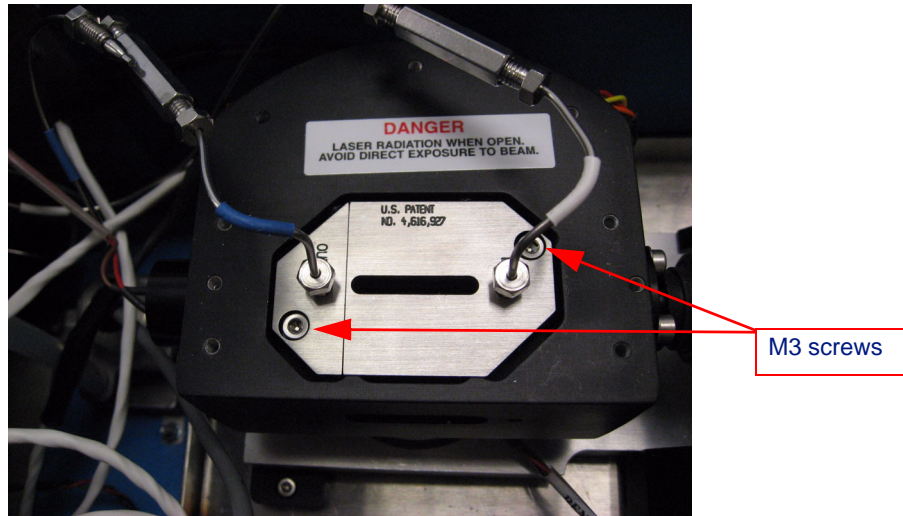

Figure 5-7: Flow Cell
10. Use the 2.5 mm Ball driver to remove the two M3 screws, then lift the cell assembly up and out of the read head using the tubing. See Figure 5-7.